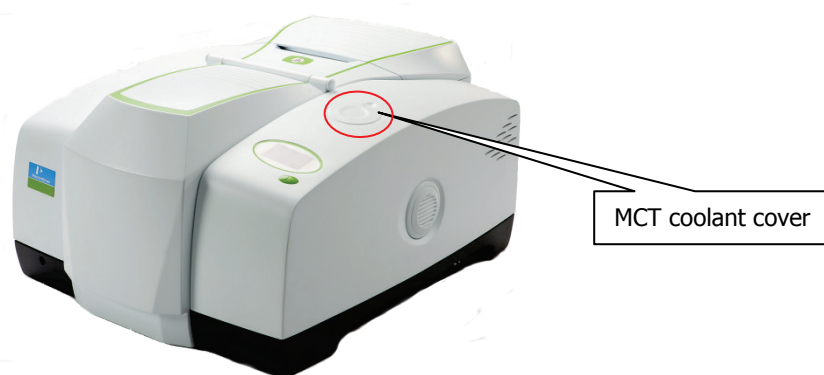

Figure 34 Location of MCT coolant cover
1. Remove the MCT coolant cover (Figure 34).